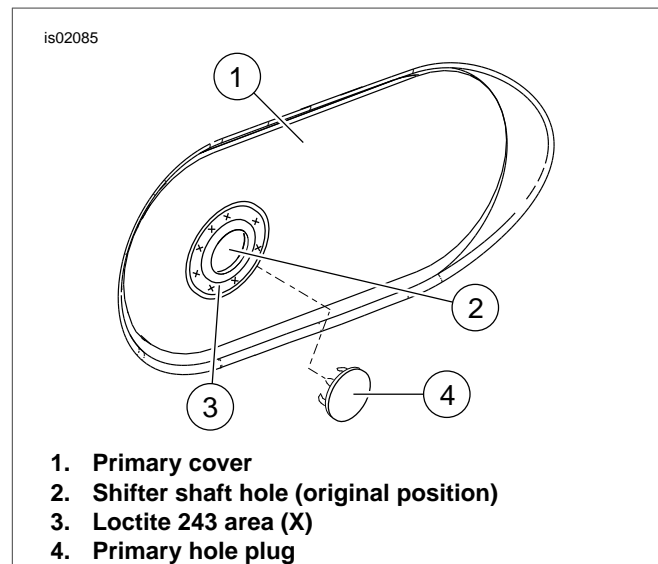

Figure 3. Outer Cover Plug Installation
14. See Figure 3. Clean the area around primary cover (2) hole, removing all dirt, oil and grease. Apply Loctite 243 (Harley-Davidson Part Number 99642-97) around opening (3). Insert primary hole plug (4) into opening. Remove any excess adhesive from surface. Allow Loctite to cure for 24 hours before operating vehicle.